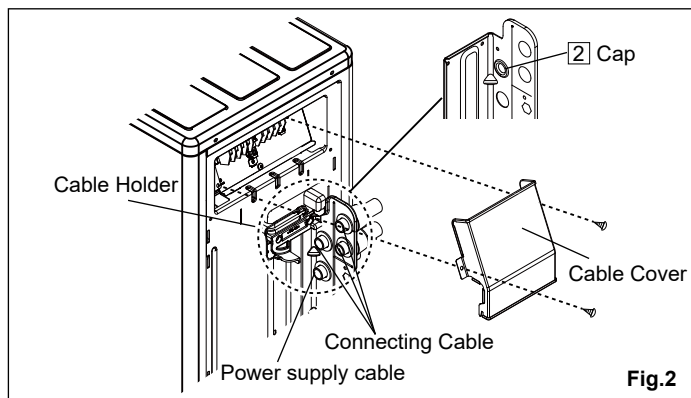

Fig.2
When connecting to three indoor units, remove the cap. (Fig.2)
- (7) Attach the Cable Cover with the screws. (Fig.2)
- (8) Double-check that the Connecting Cable is securely in place.